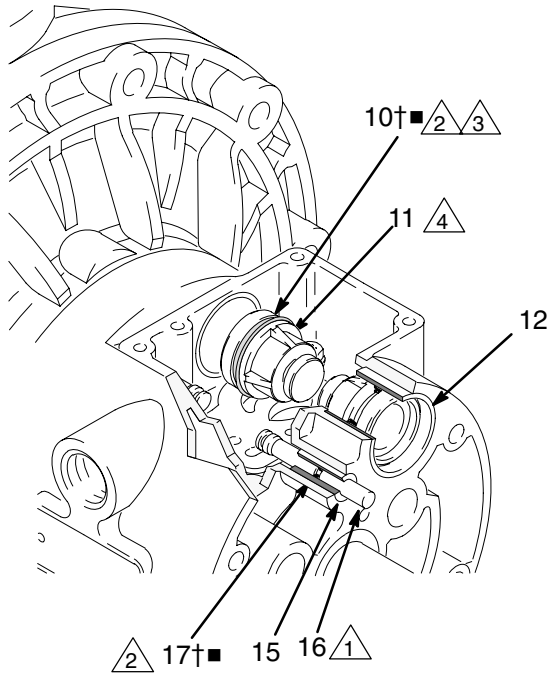

Fig. 9
4. Pull the two actuator pistons (11) out of the bearings (12). Remove the u-cup packings (10†■) from the pistons. Pull the pilot pins (16) out of the bearings (15). Remove the o-rings (17†■) from the pilot pins. See Fig. 9.
6. Inspect the bearings (12, 15) in place. See Fig. 9. The bearings are tapered and, if damaged, must be removed from the outside. This requires disassembly of the fluid section. See page 22.
4. Install an o-ring (17†■) on each pilot pin (16). Grease the pins and o-rings. Insert the pins into the bearings (15), **narrow** end first. See Fig. 9.
5. Install a u-cup packing (10†■) on each actuator piston (11), so the lips of the packings face the **narrow** end of the pistons. See Fig. 9.
6. Lubricate the u-cup packings (10†■) and actuator pistons (11). Insert the actuator pistons in the bearings (12), **wide** end first. Leave the narrow end of the pistons exposed. See Fig. 9.